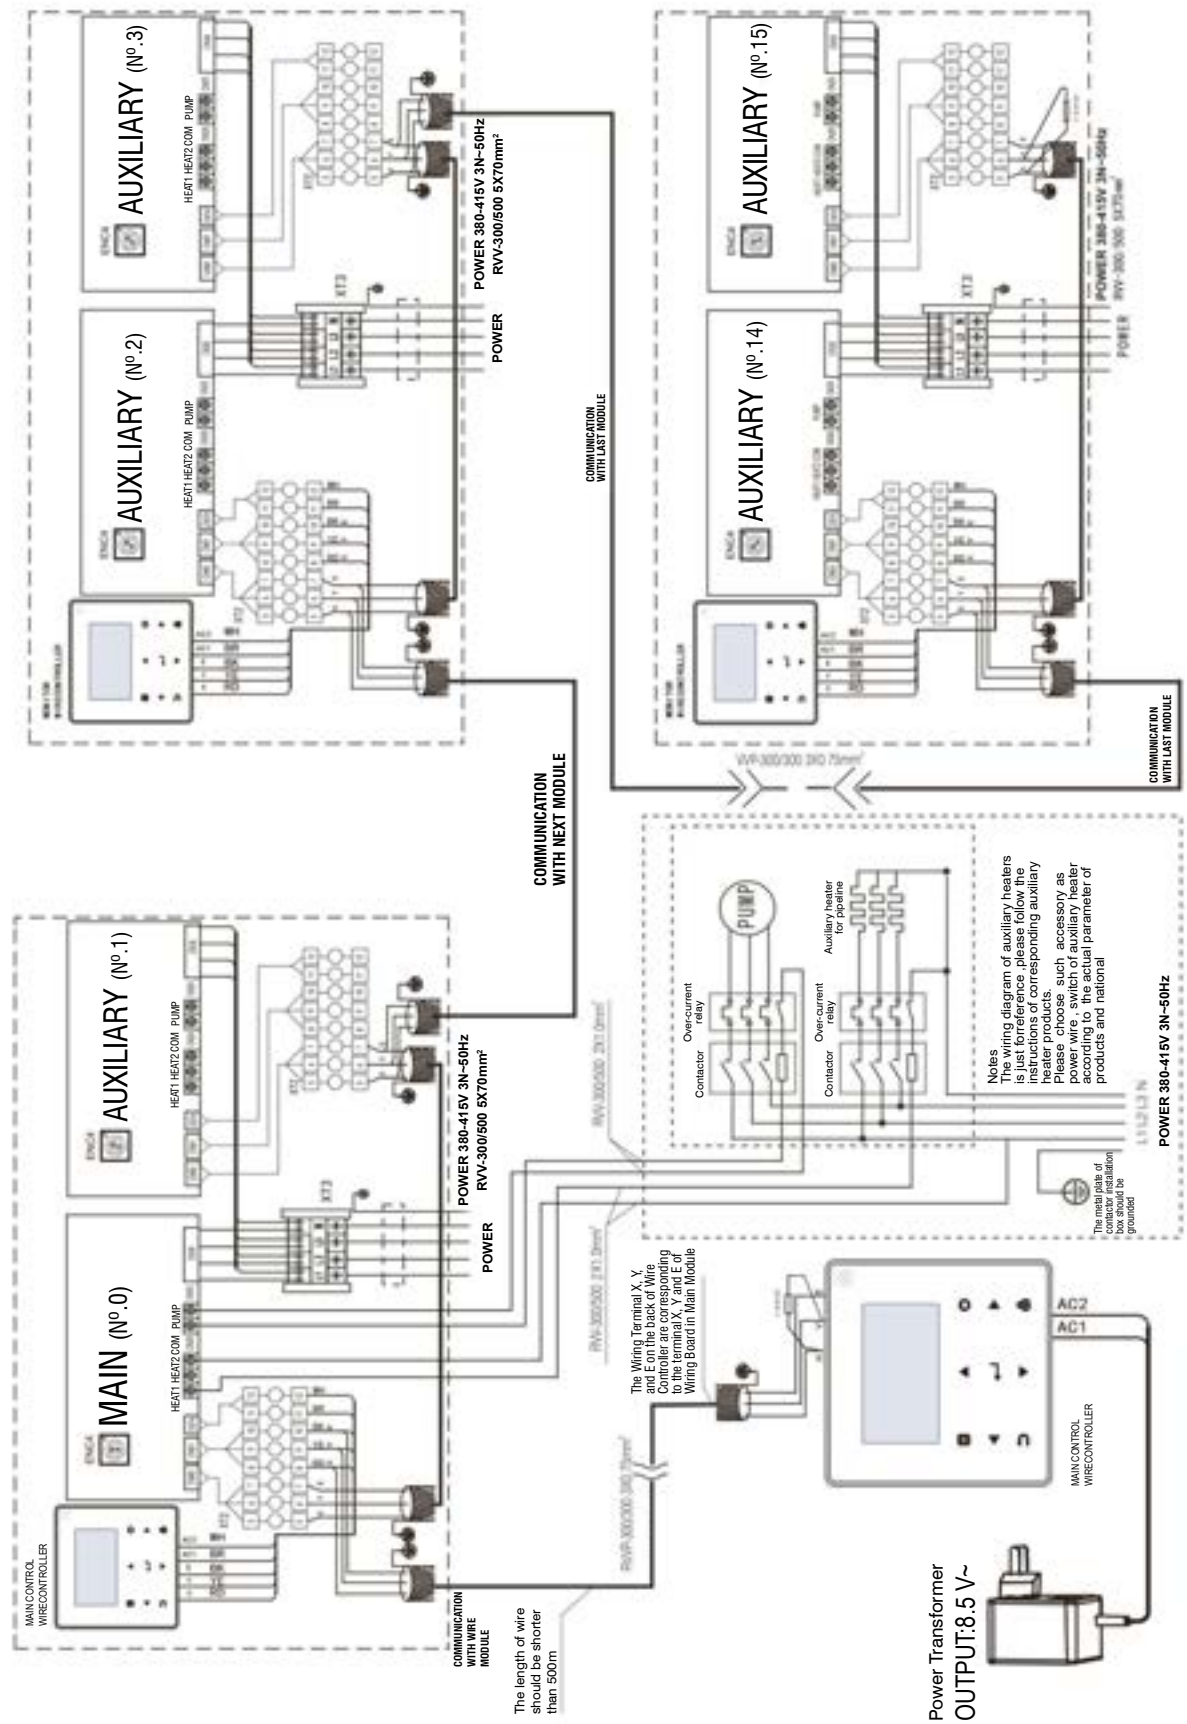

Fig. 8-28 Networking communication schematic of main unit and auxiliary unit for MUENR-180-H12T / MUENR-180-H12T(K).
- c) The inlet pipe of the evaporator must be provided with a target flow controller, to realize flow-break protection for the unit. Both ends of the target flow controller must be supplied with horizontal straight pipe sections whose diameter is 5 times that of the inlet pipe. The target flow controller must be installed in strict accordance with "Installation & Regulation Guide for Target Flow Controller" (Fig.8-28,8-29). The wires of the target flow controller should be led to the electric cabinet through shielded cable (see Electric Controlling Schematic Diagram for details). The working pressure of the target flow controller is 1.0MPa, and its interface is 1 inch in diameter. After the pipelines are installed, the target flow controller will be set properly according to the rated water flow of the unit.